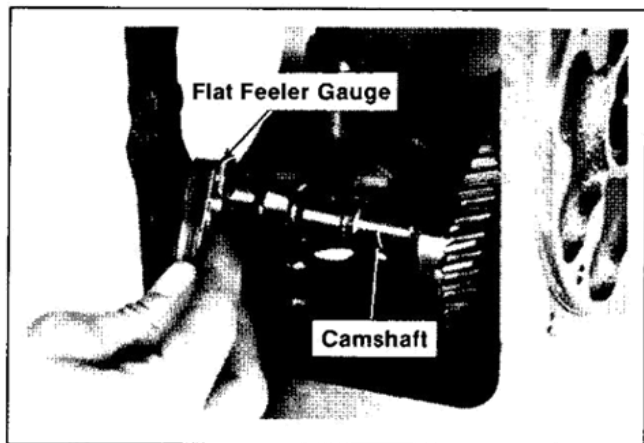

Figure 12-7. Measuring Camshaft End Play.
3. Measure the camshaft end play between the spacer and crankcase boss using a flat feeler gauge. Refer to Figure 12-7. Recommended camshaft end play is .005"/.020" for model K91 and .005"/.010" - for all other K-Series models. Add or subtract .005" and/or .010"